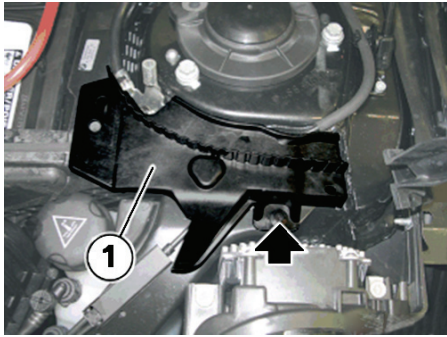

Fig. 3 Gasket rivet removal
7. Release expanding rivet and remove mounting for gasket (1), **Fig. 3**.
6. Install mounting for gasket (1) and secure with expanding rivet, **Fig. 3**.